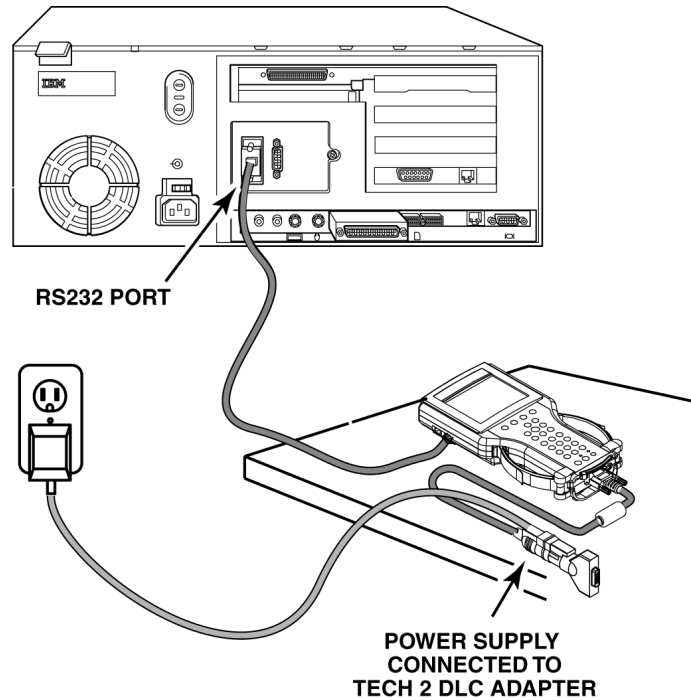

FIGURE 8-20. Tech 2 to PC Terminal Connection
- a. Connect the Tech 2 to the terminal, as shown in Figure 8-20.
1. Connect the scan tool to the terminal using the RS-232 cable (Figure 8-20).
2. Power up the scan tool using the AC power supply that came with the tool (refer to Figure 8-20).